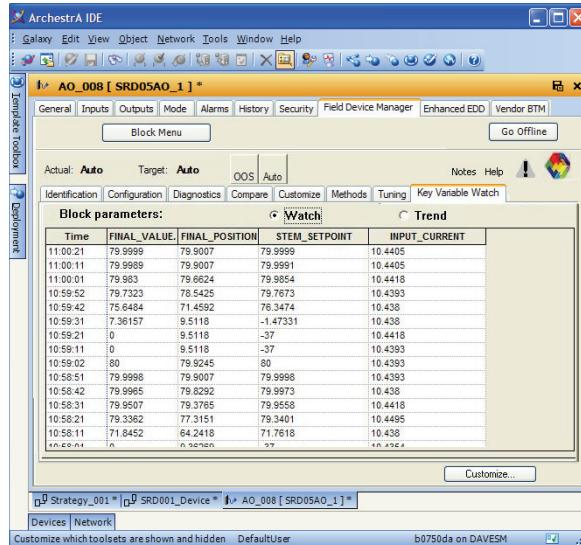

Figure 13. Watch Tab in Table Format
- ▶ The Watch tab – Table Format (Figure 13) displays sampled parameter data, with each row of the table representing a scan of the device.